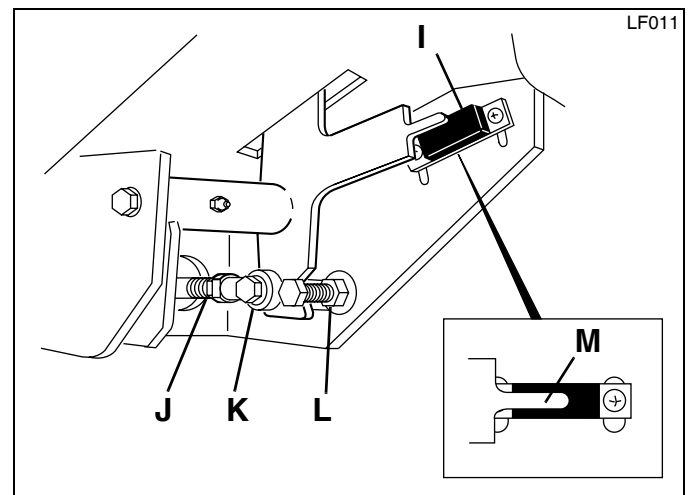

Figure 3K
4. Engage parking brake and set mow switch to neutral. Make sure neutral switch at traction pedal is closed. (Figure 3K - **M**). Distance between the switch and metal pointer "M" must be between .060" and 1.120".
6. Connect traction linkage. When connecting linkage at traction pedal make sure pointer on traction pedal bracket is centered over neutral switch **(M)** -Figure 3K).